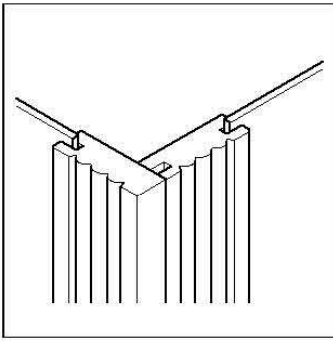

Fig 5. Use at least 1 edge strip for external corners as shown
4. The jointing strips must have the same angle as the cut stair panel top and bottom. Note that the jointing strip needs to be 15mm shorter than the stair panel to accommodate the panel fitting into the grooves of the dado and stair rail. Cut the angle at the bottom of the jointing strip using the cut panel as a template. Figure 5 shows how you should use the panel template to mark the cut angle at the bottom of the jointing strip. Then measure 768mm from X to Y and use cut panel as template to cut top angle from point Y.